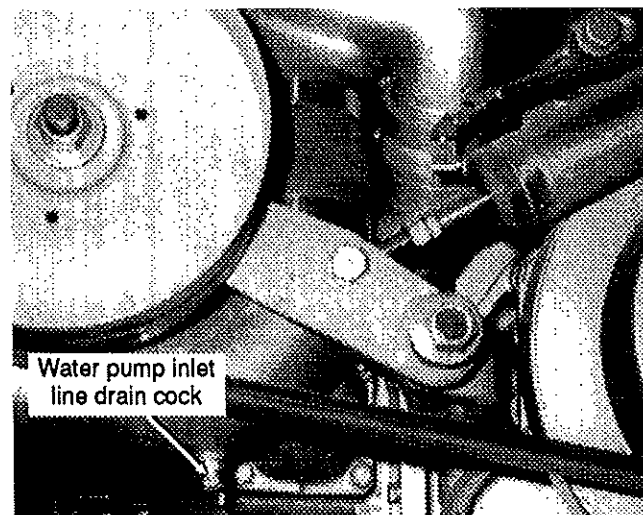

Fig. 8
6. Open the water pump inlet line drain cock (see fig. 8).